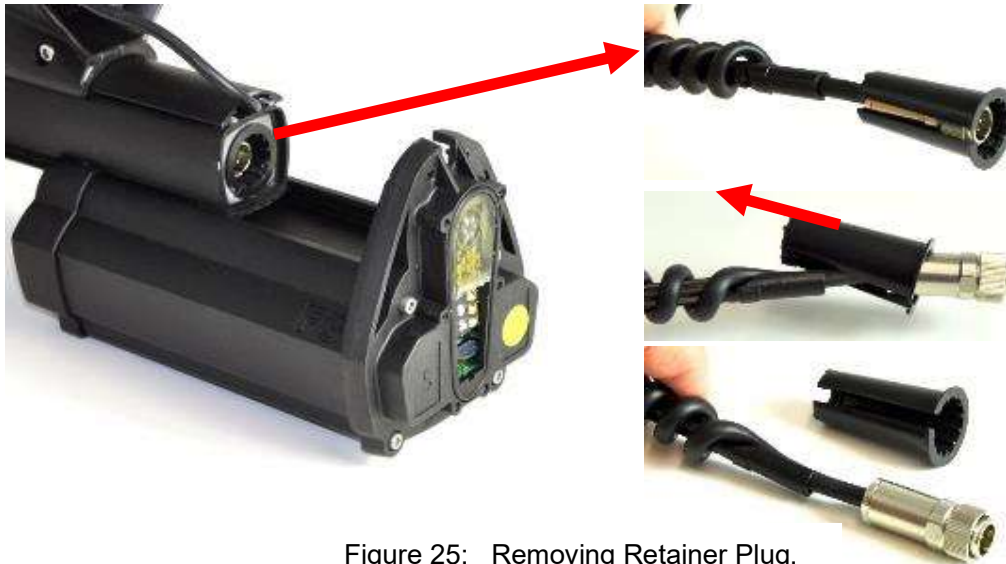

Figure 25: Removing Retainer Plug.
- Remove the retainer plug from the coil cable, if fitted, as shown in Figure 25.